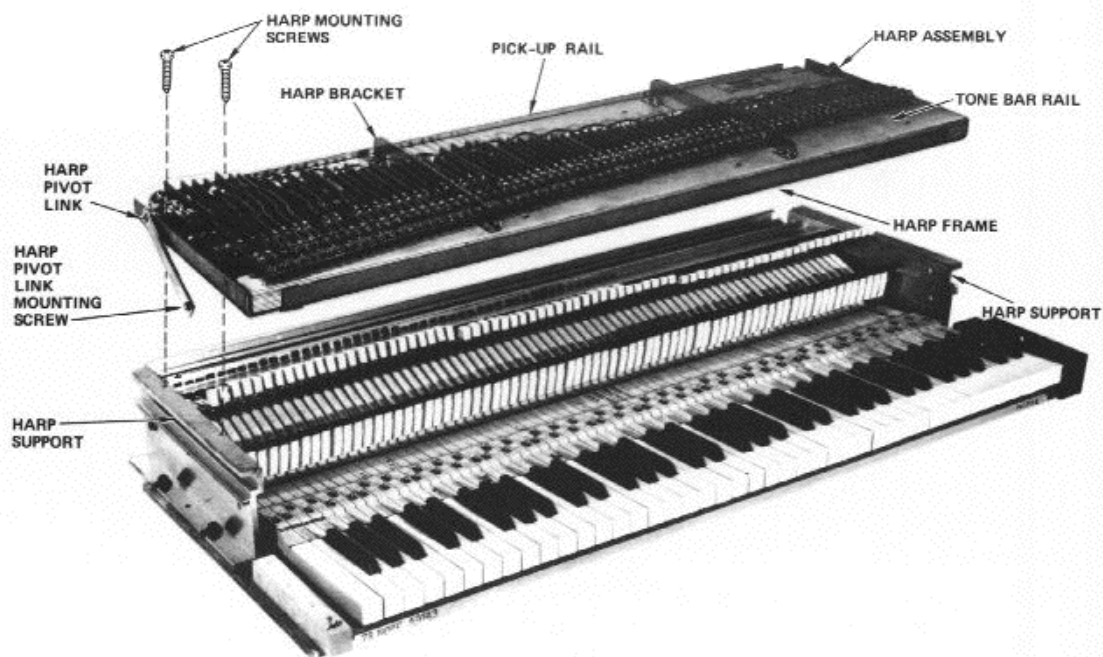

Figure 3-1. RHODES Harp/Action Assembly — Exploded View
The Harp Assembly (Figure 3.1) consists of three major assemblies. The Harp Frame, the Tone Bar Rail and the Pickup Rail. The Tone Bar Rail and the Pickup Rail are seated into the Harp Frame and secured by fourteen (14) Mounting Screws. Two metal Harp Brackets are then mounted to join the two. The Harp Assembly is secured to the two aluminum Harp Supports by four (4) Screws (two (2) on each end) as well as the Harp Pivot Links located on each end. Complete removal of the Harp, then, is accomplished by removing the four Mounting Screws as well as the two Screws which secure the Harp Pivot Links.
Figure 3-1. RHODES Harp/Action Assembly – Exploded view